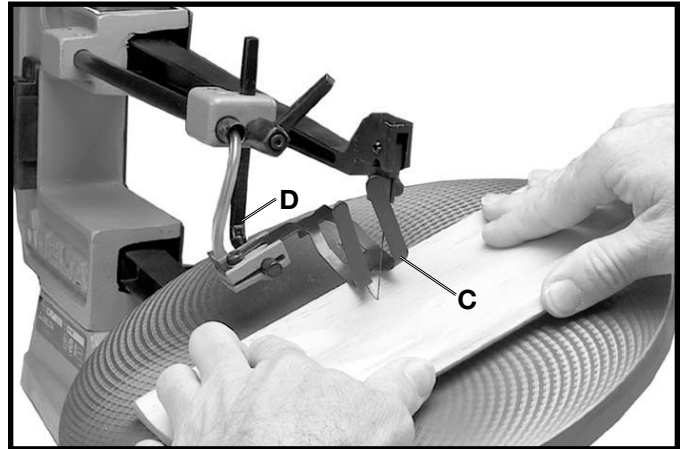

Fig. 21
3. When bevel cutting, as shown in Fig. 21, the holddown (C) can be adjusted to lay flat on the stock. If the workpiece is too thick causing the stock to contact the holddown arm (D), the complete holddown assembly can be removed, since thick stock is heavy enough to resist lifting off the table during the blade's up stroke.